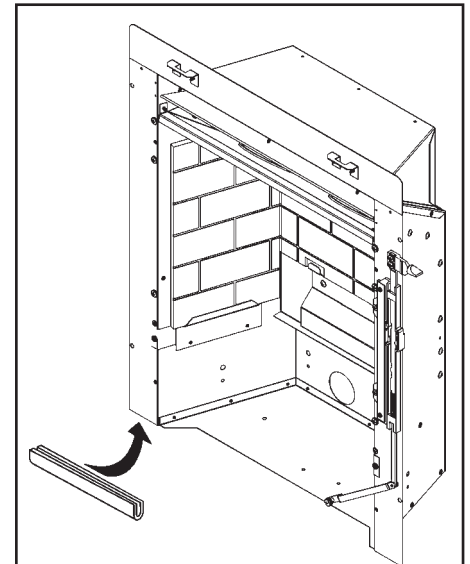

Figure 13. 'U' Seals
4. Fit the two “U” section seals to the bottom edges of the convection box side flanges (See figure 13).